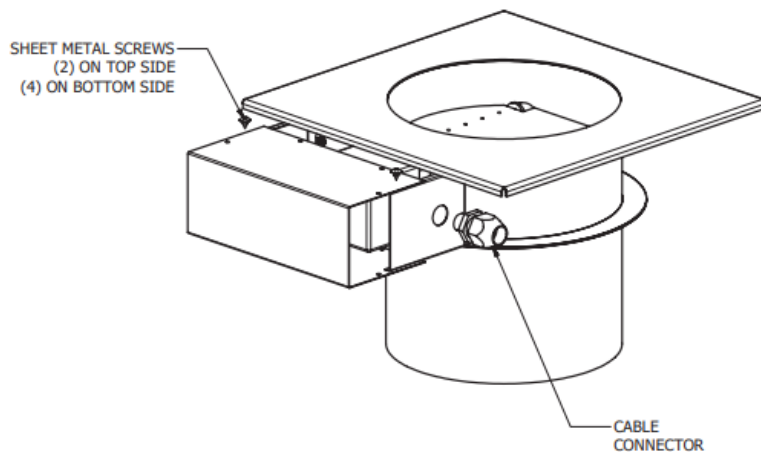

FIGURE 27
1. Before installing the MFD on the chimney, a power cable should be wired to the actuator and the actuator cover should be secured (**Figure 27**).
3. Use (6) of the included sheet metal screws to secure the actuator cover to the MFD. Once secure, apply a bead of silicone around the seams of the cover.